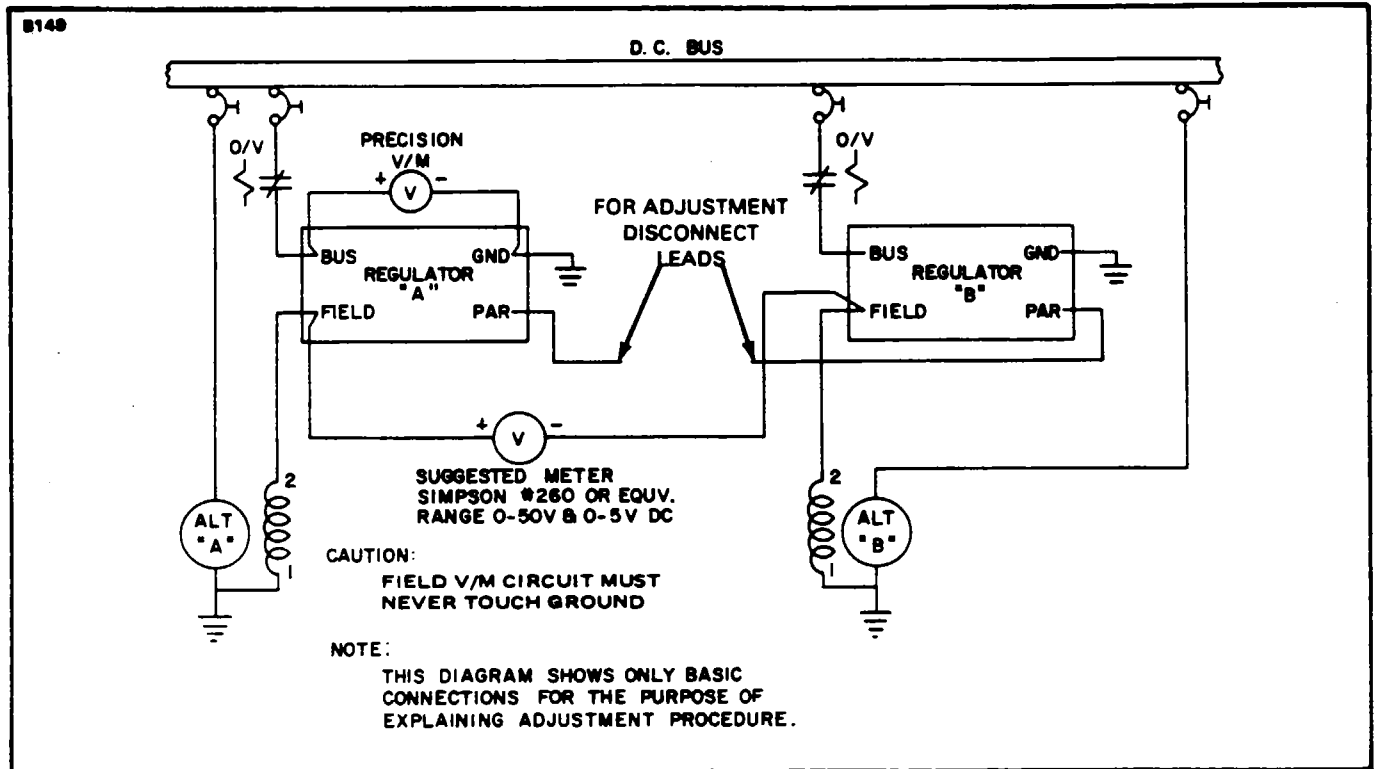

Figure 11-20. Adjusting Regulator (Lamar)
a. These regulators are normally used in parallel alternator systems of multi-engine aircraft. Their final adjustment should be made in actual operation in the aircraft system with test equipment connected as shown in Figure 11-20. The balance adjustment is made while operating only one engine, either left or right. The engine to be operated must be selected so as to permit the technician a completely safe access to both of the regulators, so that they may be adjusted while the engine is operating without danger. We shall designate the engine selected to be operated as "RIGHT" and the inoperative engine as "LEFT" for purposes of discussion.